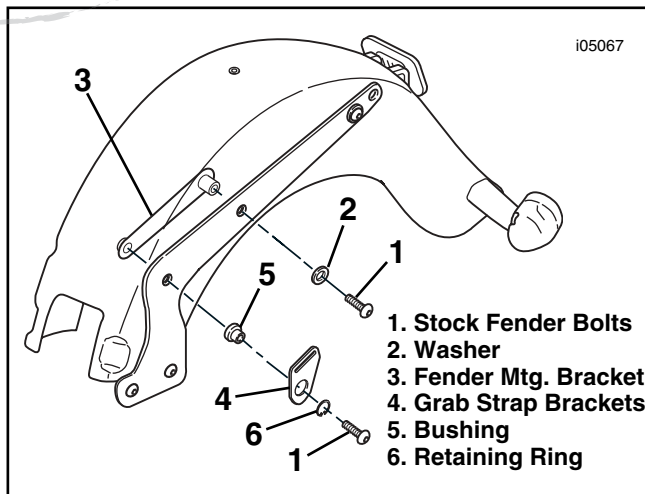

Figure 11. Fender Hardware Removal (Left Side), 2003 and Later FLSTC and FLSTF
1. See Figure 11. Remove the two forward rear-fender bolts (1), washer (2), fender mounting bracket (3), grab strap bracket (4), bushing (5) and retaining ring (6) on the left side of the vehicle. Discard the bolts, but save all remaining hardware for re-use.